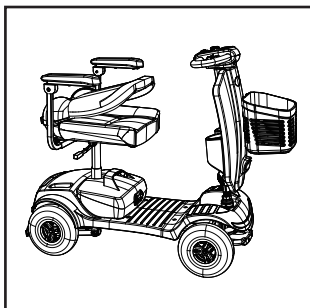

Figure 9
2. Stand behind the seat and fold the backrest down (see figure 9).